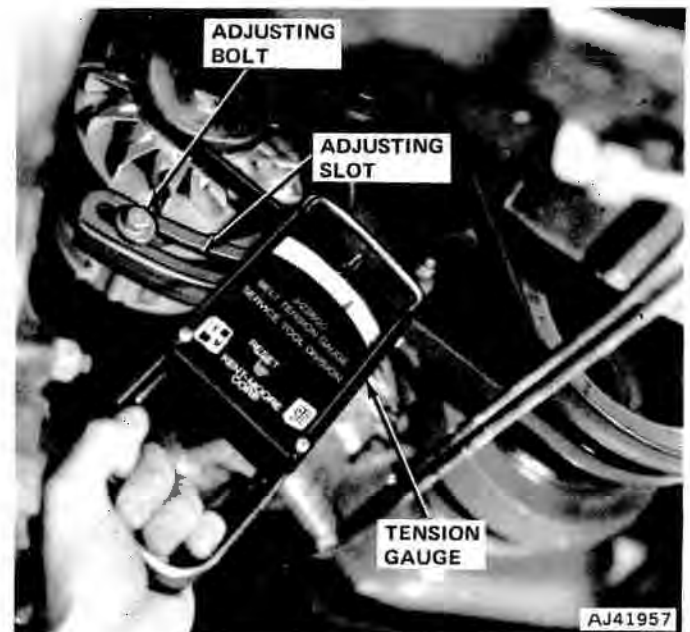

Fig. 2-11 Checking Fan Drive Belt Tension
(4) Check belt tension using Tension Gauge J-23600 (fig. 2-11).
(5) Tighten adjusting bolt to 18 foot-pounds torque and mounting bolts to 28 foot-pounds torque.